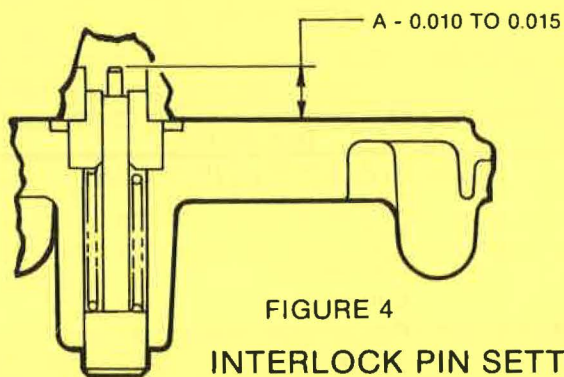

FIGURE 4
5. Subtract 0.010 to 0.015 in (0.25 to 0.38 mm.) from measurement in step 4 and set pin protrusion at this figure. See Figure 4.